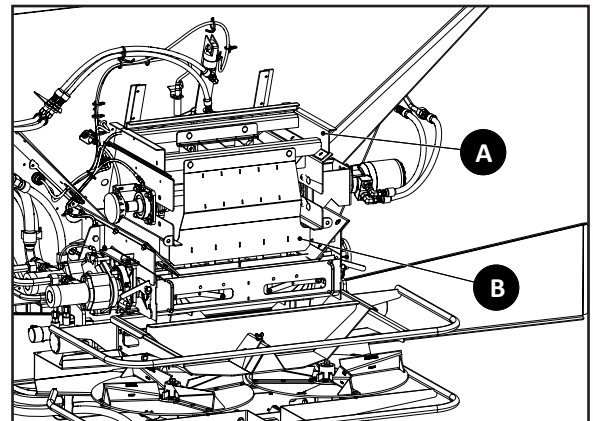

Figure 1 - MULTAPPLIER Hillside Divider
2. Figure 1 - Install MULTAPPLIER Hillside Divider Support (A) and fasten to MULTAPPLIER by reinstalling chain shield hardware. Slip MULTAPPLIER Hillside Divider (B) up into place and loosely install supplied hardware.